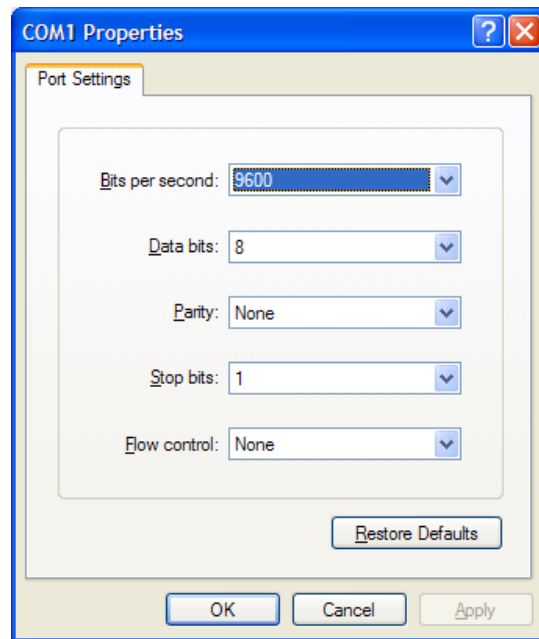

Figure 4-2 COM Port Properties
5. Start Hyperterminal on your computer and configure the COM Port settings as shown in Figure 4-2. Any available COM Port may be used, not just the one shown.